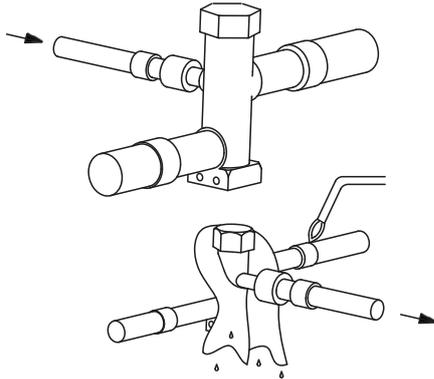

Figure 9-4
4. Wrap a wet rag around the valve body to avoid heat damage and continue the dry nitrogen purge (Figure 9-4).